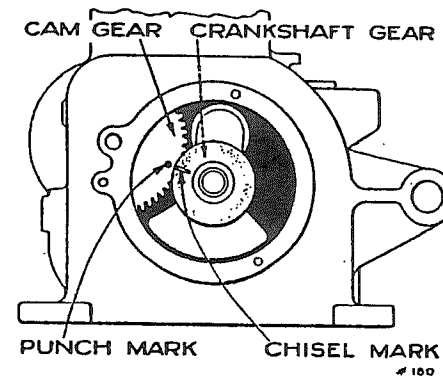

Fig. 12.
61. The timing of the valves is taken care of by the meshing of the cam shaft gear with the one on the crankshaft. These gears are properly meshed when the punch mark on the cam shaft gear is in line with the chisel mark on the crankshaft. (See Figure 12.)